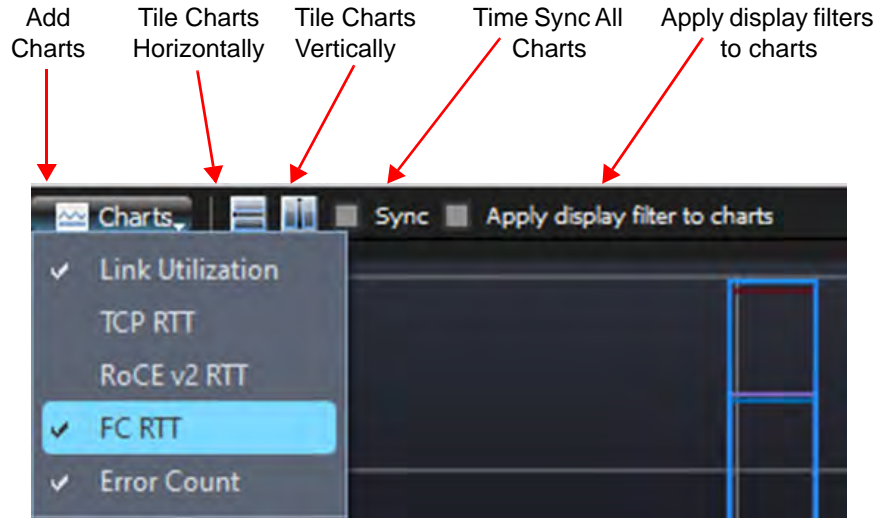

Figure 5.88: Controls for Bus Utilization View (1)
Display Controls (More detail is shown in Figures 5.88 and 5.89.)
- Add Charts (Display Error Count or Link Utilization or both; see Figure 5.88.)
- Synchronize Charts (Time frame is same for both views as in Figure 5.88.)